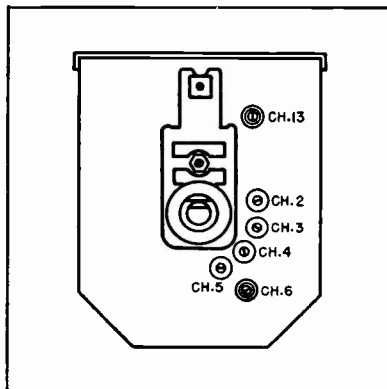

Figure 2. Oscillator slugs for VHF tuner 89 013 555.
2. Readjust the oscillator slug of that channel (see figure 2) so that proper tuning, within the range of the Fine Tuning control, is obtained.